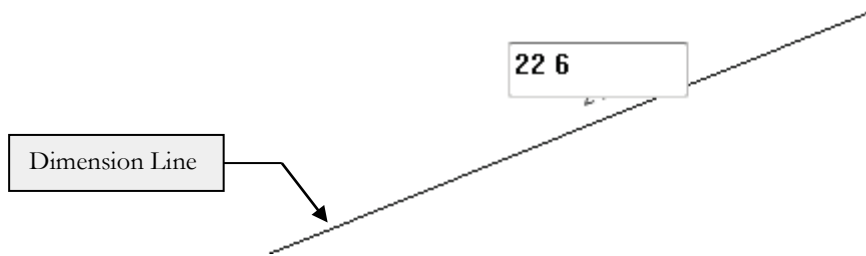

FIGURE 3-1.8 Editing dimension to change line length
16. Type **22 6** (i.e., 22 *space* 6) and press **Enter** (Figure 3-1.8).